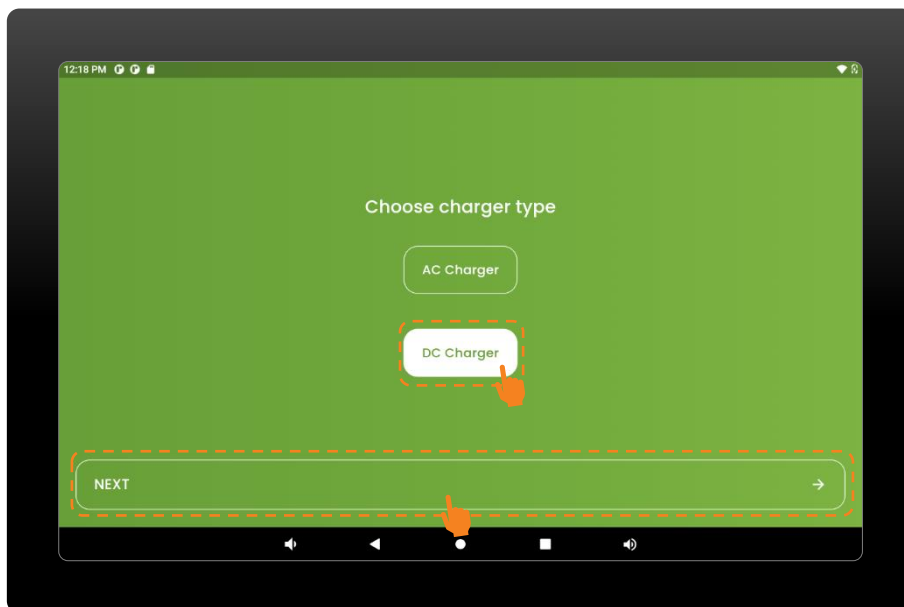

Figure 37 Choose charger type screen.
- Select DC charger, and then press the next button. (Figure 37)